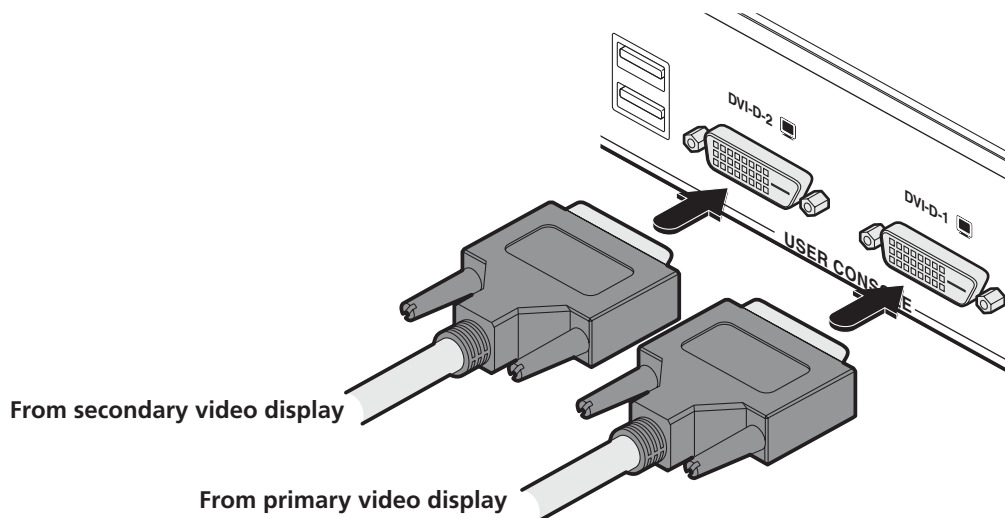

Figure 3-15. Connect two standard DVI-D link cables to the DVI-D-1 and DVI-D-2 sockets.
- 1 Connect your primary DVI display to the DVI-D-1 socket and your second DVI display to the DVI-D-2 socket on the Remote unit rear panel. See Figure 3-15.